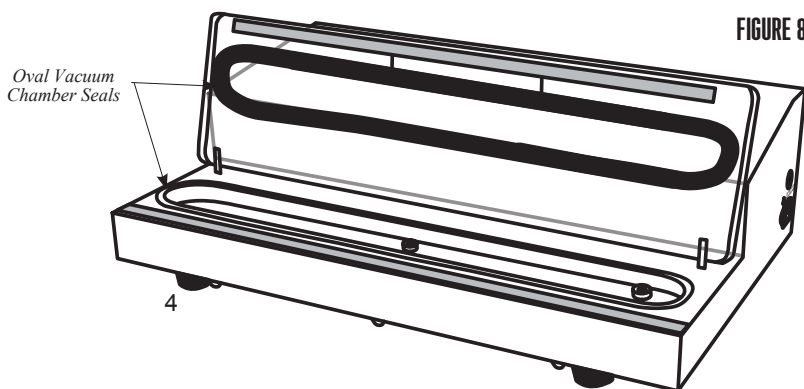

FIGURE 8
4. Remove the Oval Vacuum Chamber Seal from the groove on the underside of the Vacuum Lid (**FIGURE 8**).